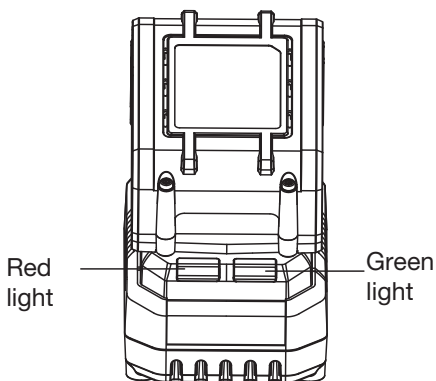

Figure 1
1. CHARGING THE BATTERY PACK (SEE FIG. 1)